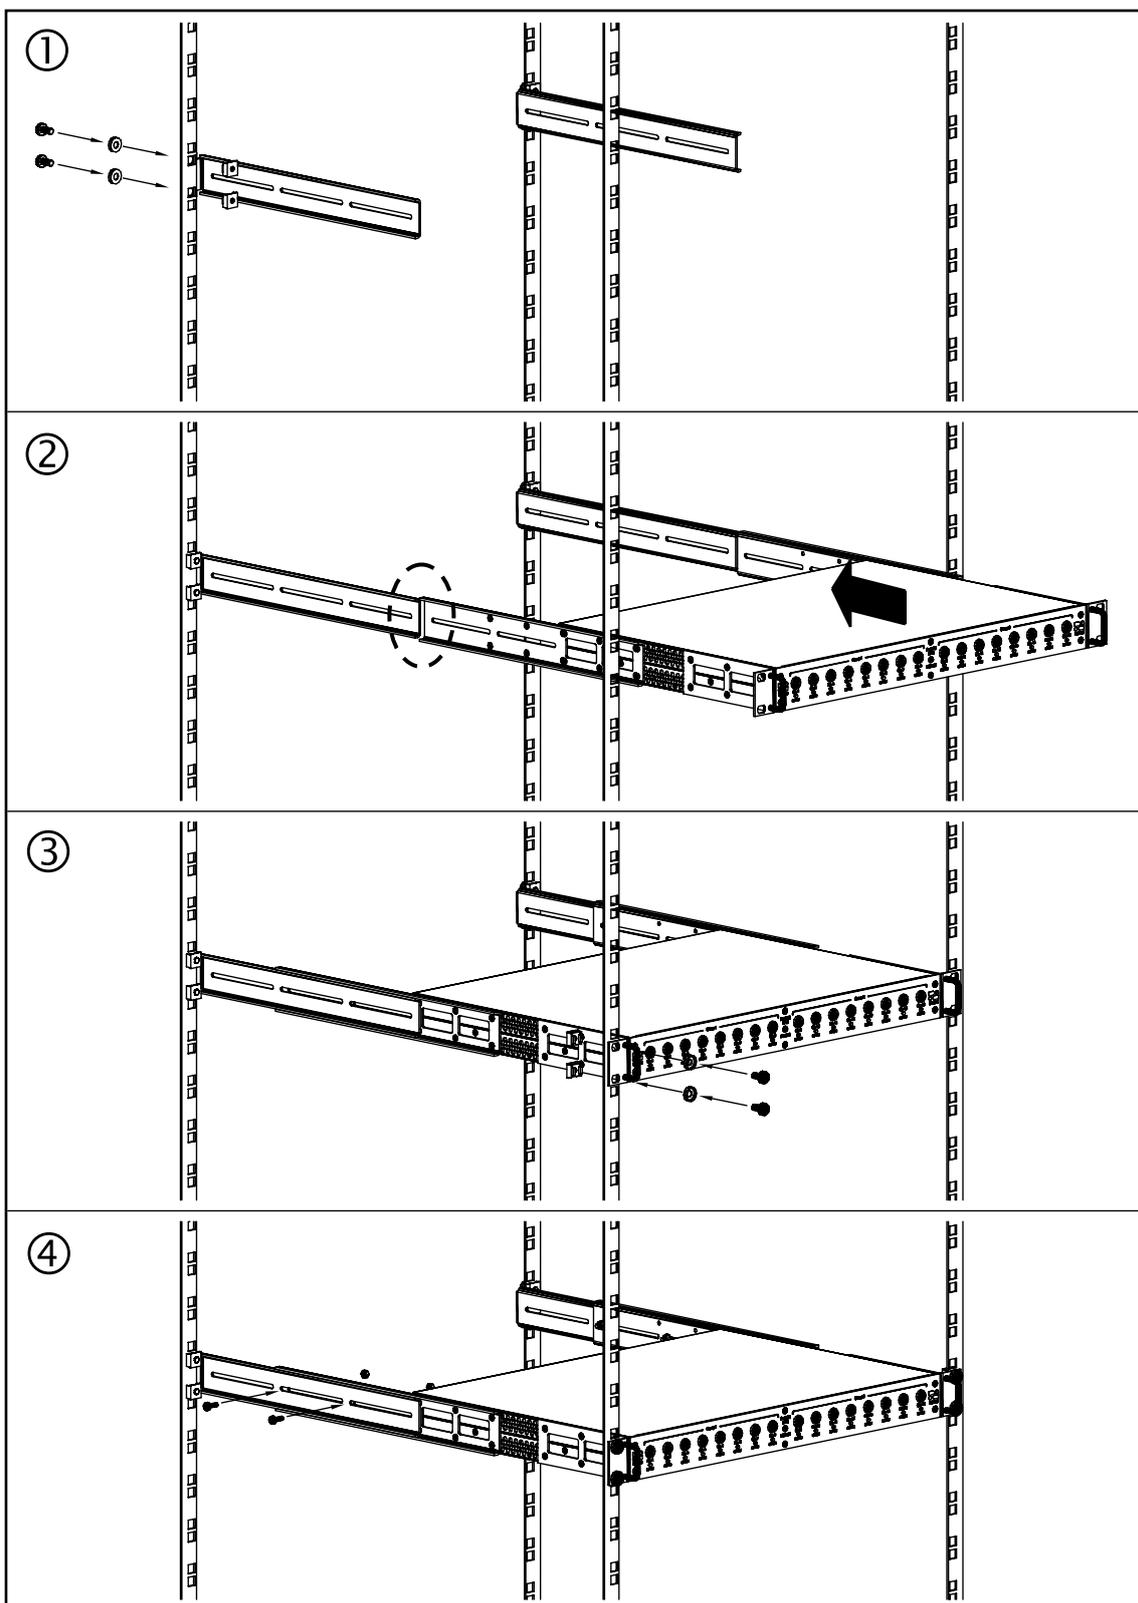

Figure 7 - Final Steps to mount the ProDAQ 5720 in a 19" Rack
Next install the rear rack-mount brackets in your rack at the desired positions using the proper fixing materials for the rack used (see Figure 7, ①). Rack fixing materials are not part of the ProDAQ 5725 Rack-mount Kit.
Next install the ProDAQ 5716 into the rack at the desired position. To do so, slide the ProDAQ 5716 into the rack from the front (see Figure 7, ②). Take care that the rear support rails attached to the ProDAQ 5720 and the rear rack-mount brackets slide properly into each other. Attach the front rack-mount brackets to the rack using the proper fixing materials for the rack used (see Figure 7, ③).
Finally attach the rear support rail on each side to the already installed rear rack-mount bracket by using 2 pieces M4 x 12mm panhead screws, washers and nuts on each side. If only one slotted hole is accessible, position the screws that they are as far apart as possible (see Figure 7, ④).